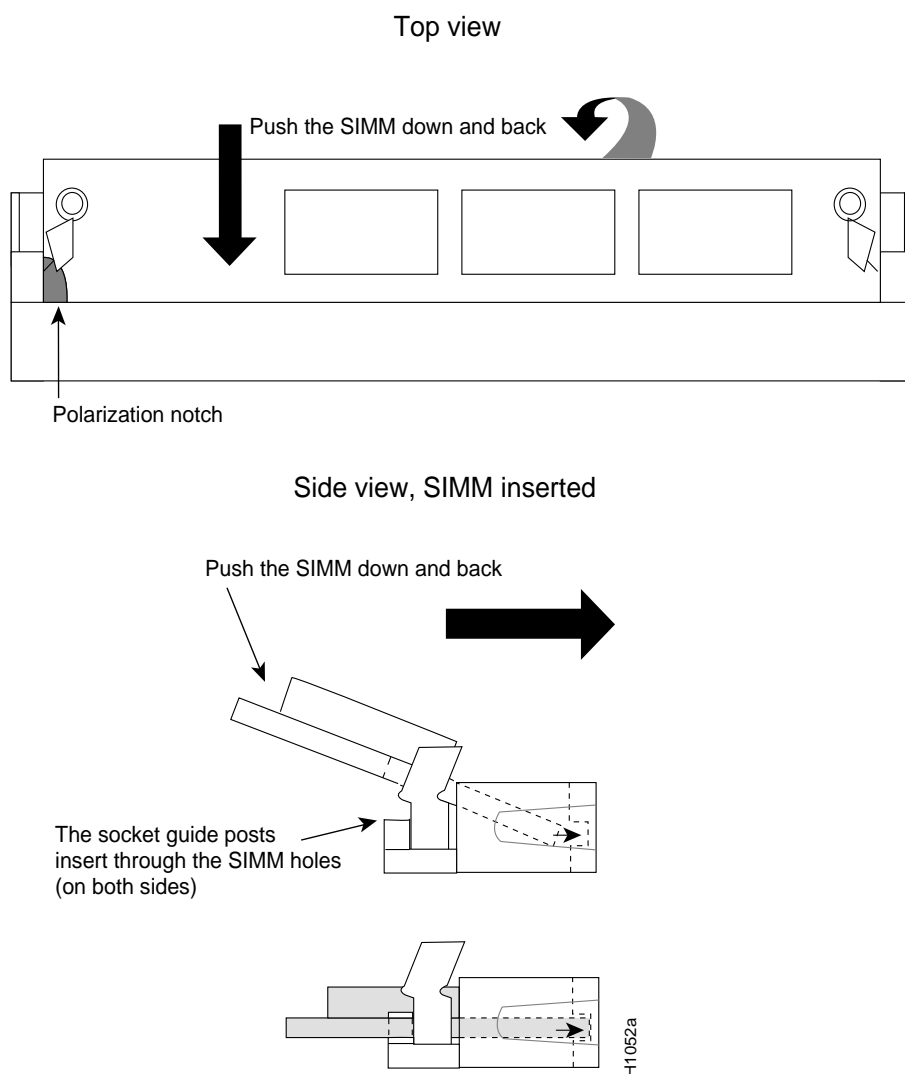

Figure 14 Inserting Shared Memory SIMMs in the Cisco 4000 Series
Step 6 SIMMs are manufactured with a *polarization notch* to prevent them from being installed backwards. Hold the SIMM with the connector edge at the bottom, the component side facing you, and the polarization notch on the left, as in Figure 14.
Step 7 To insert a SIMM, angle it into position, then carefully push down and back on the edges, holding each edge so that it securely snaps in place. (See Figure 14.) When it snaps into place, the two metal holders clip over the edge of the SIMM, and it sits horizontally.
- Step 8** Check that the SIMM is straight and that the holes are aligned with the plastic tabs on the socket. (See Figure 14.)